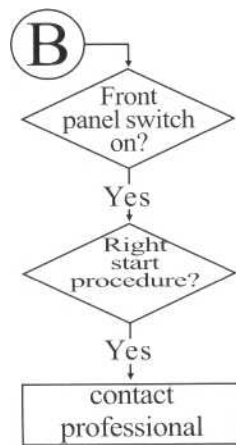

figure 10: fault handling chart
- b. Refer to fault handling procedure fault handling procedure figure 10.